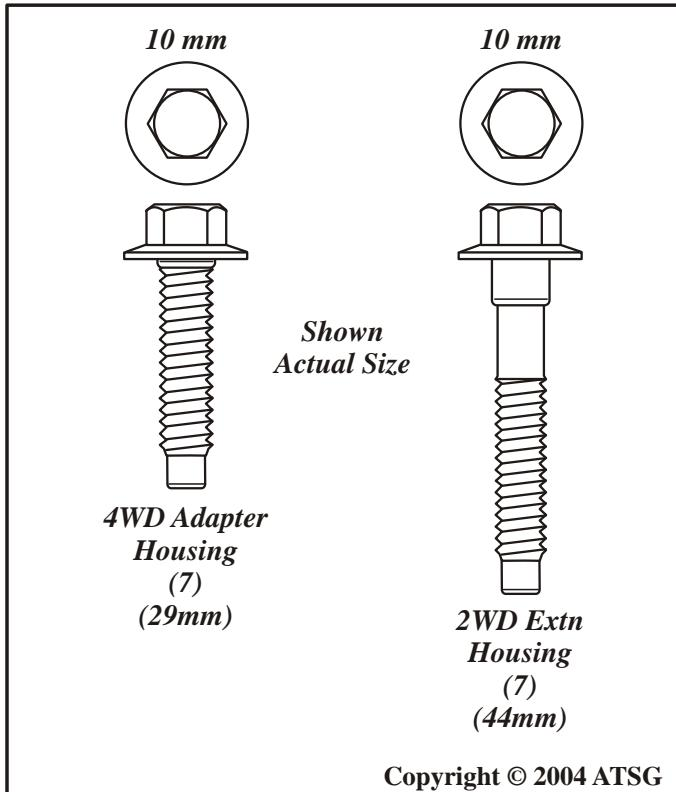

Figure 180
- Note:** *The extension housing bolts for the 2WD version are longer than the 4WD adapter housing bolts (See Figure 180).*